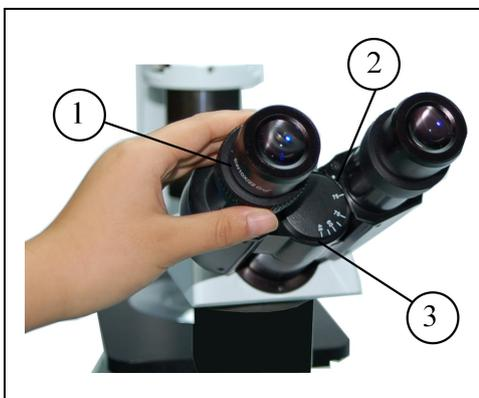

Fig 2
##### 3.1.3 Adjusting the diopter (Fig 2)
★ The reticle on the interpupillary distance indicator③, pointed by the spot “.”② on the eyepiece tube, shows the scale of the interpupillary distance. (Fig.2)